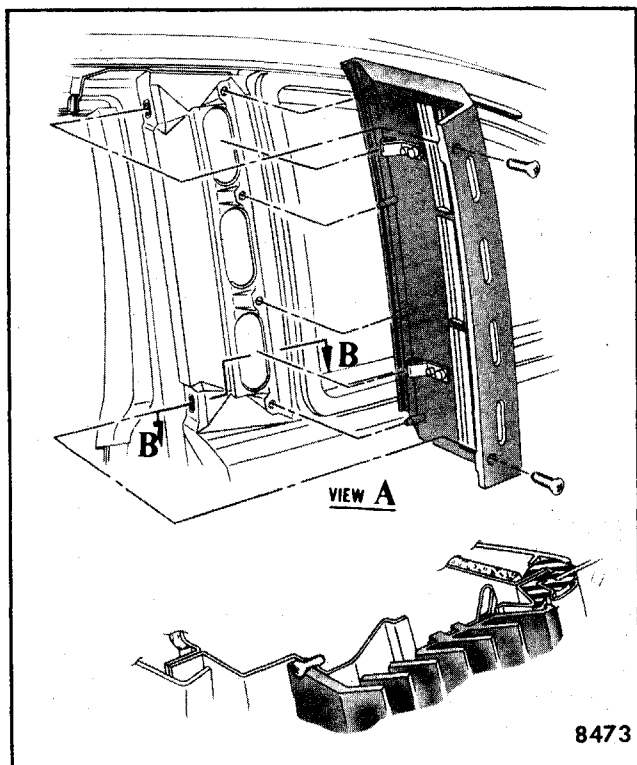

Fig. 4-19-Louver Assembly - X-17 and X-27 (standard roof) Styles
On X-17, X-27 (standard roof) and H-07 styles, air is exhausted through louvers in the body lock pillars (above belt). On the X-69 style, the right and left roof sail panel louvers are dummy louvers. Figures 4-19 and 4-20 show typical louver installations.
1. Remove louver-to-lock pillar attaching screws located in the door opening (Fig. 4-19).